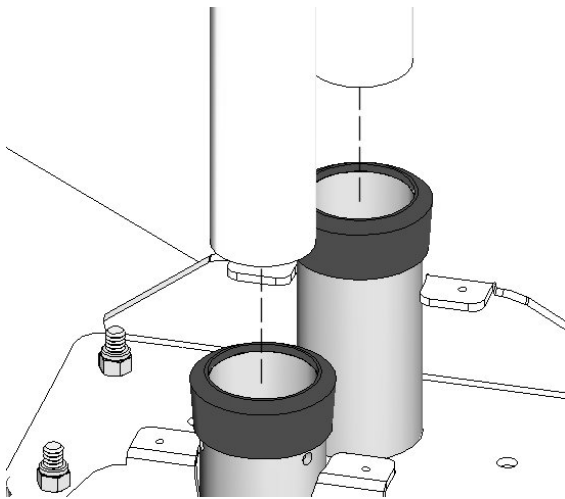

Figure 5. Install Tubes
3. Install tubes and secure tubes using four socket head set screws (see Figure 5)